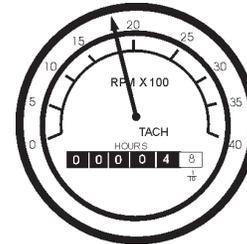

Figure 58. Engine Tachometer
15. The tachometer (Figure 58) will indicate the speed of the engine when the generator is operating. Under normal operating conditions this speed is approximately 1800 RPM's.